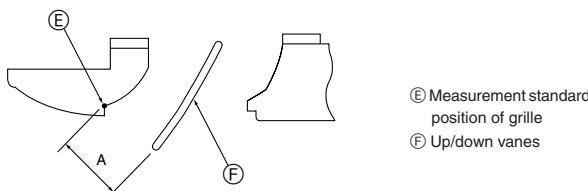

Fig. 5-10
- To adjust the desired airflow direction, slowly move the up/down vanes within the specified range. (Fig. 5-10)